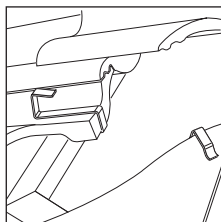

Fig 2
- 4 Secure any small cut pieces of tile* to adjacent large tile by means of the special head clip (supplied in the fixing kit) and ensure they are fully supported at hip intersection. Ensure orientation of clip is such that end of throat is flush with cut tile (Figs 2 and 3).